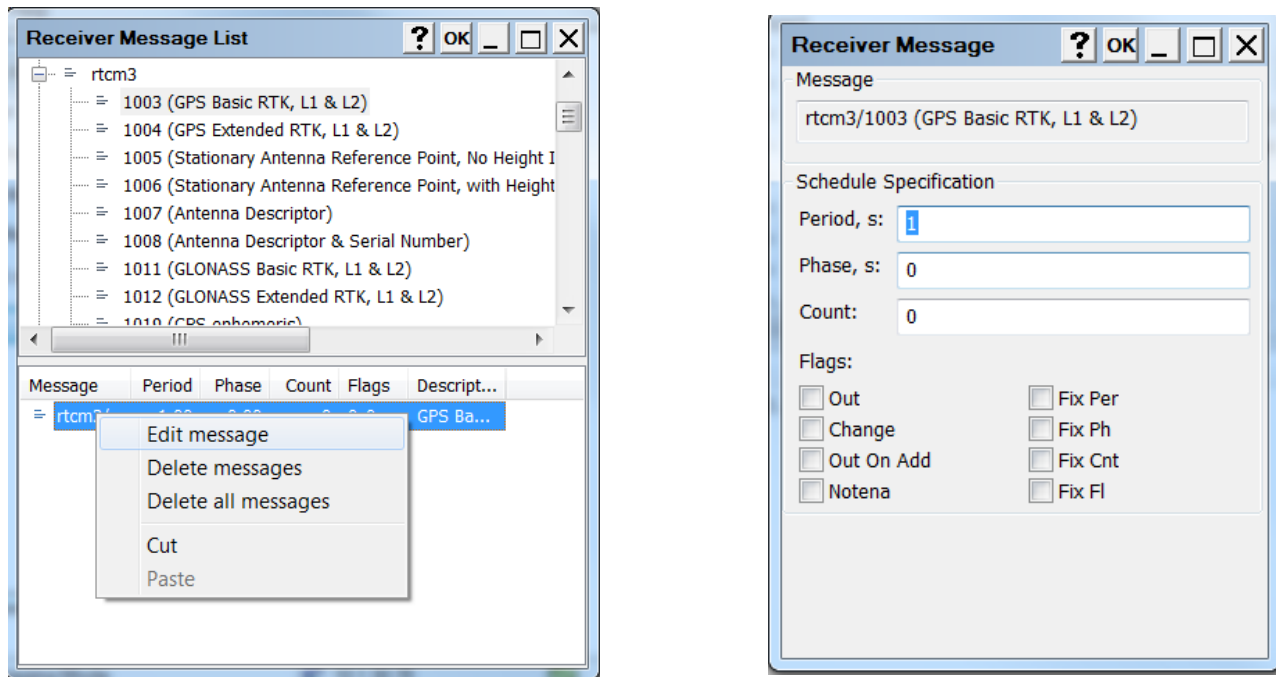

Figure 40: Edit a New Message
2. Click Edit message. The Receiver Message screen appears (Figure 40).